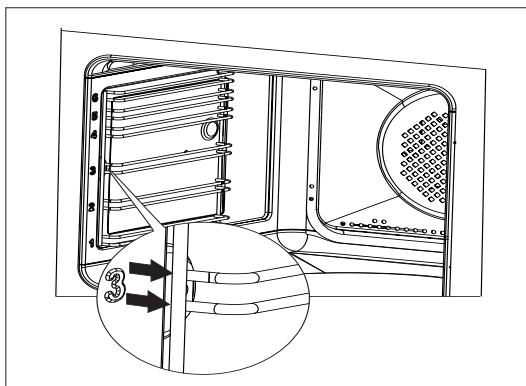

Fig. 9
- Take a firm hold of the shelf support in the middle. Place your thumb against the oven wall and lever the support out of the support holes (Fig. 9)